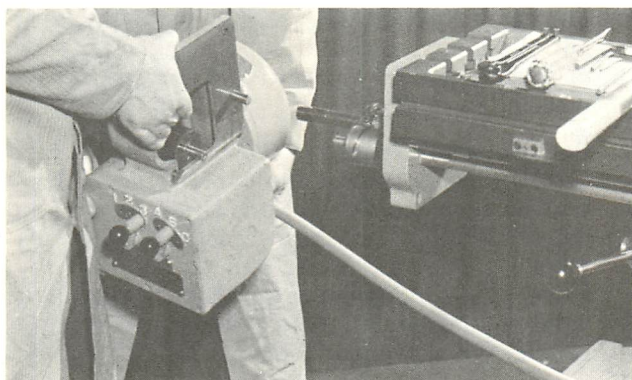

FIGURE 21A
3. Take out screws (138B, 136B, page 72) and tap gear housing bracket (144B) with bearing retainer (225B, page 74), oil seal (226B) and bushing (227B) off mounting apron (128B, page 72). [See Figure 21A.]